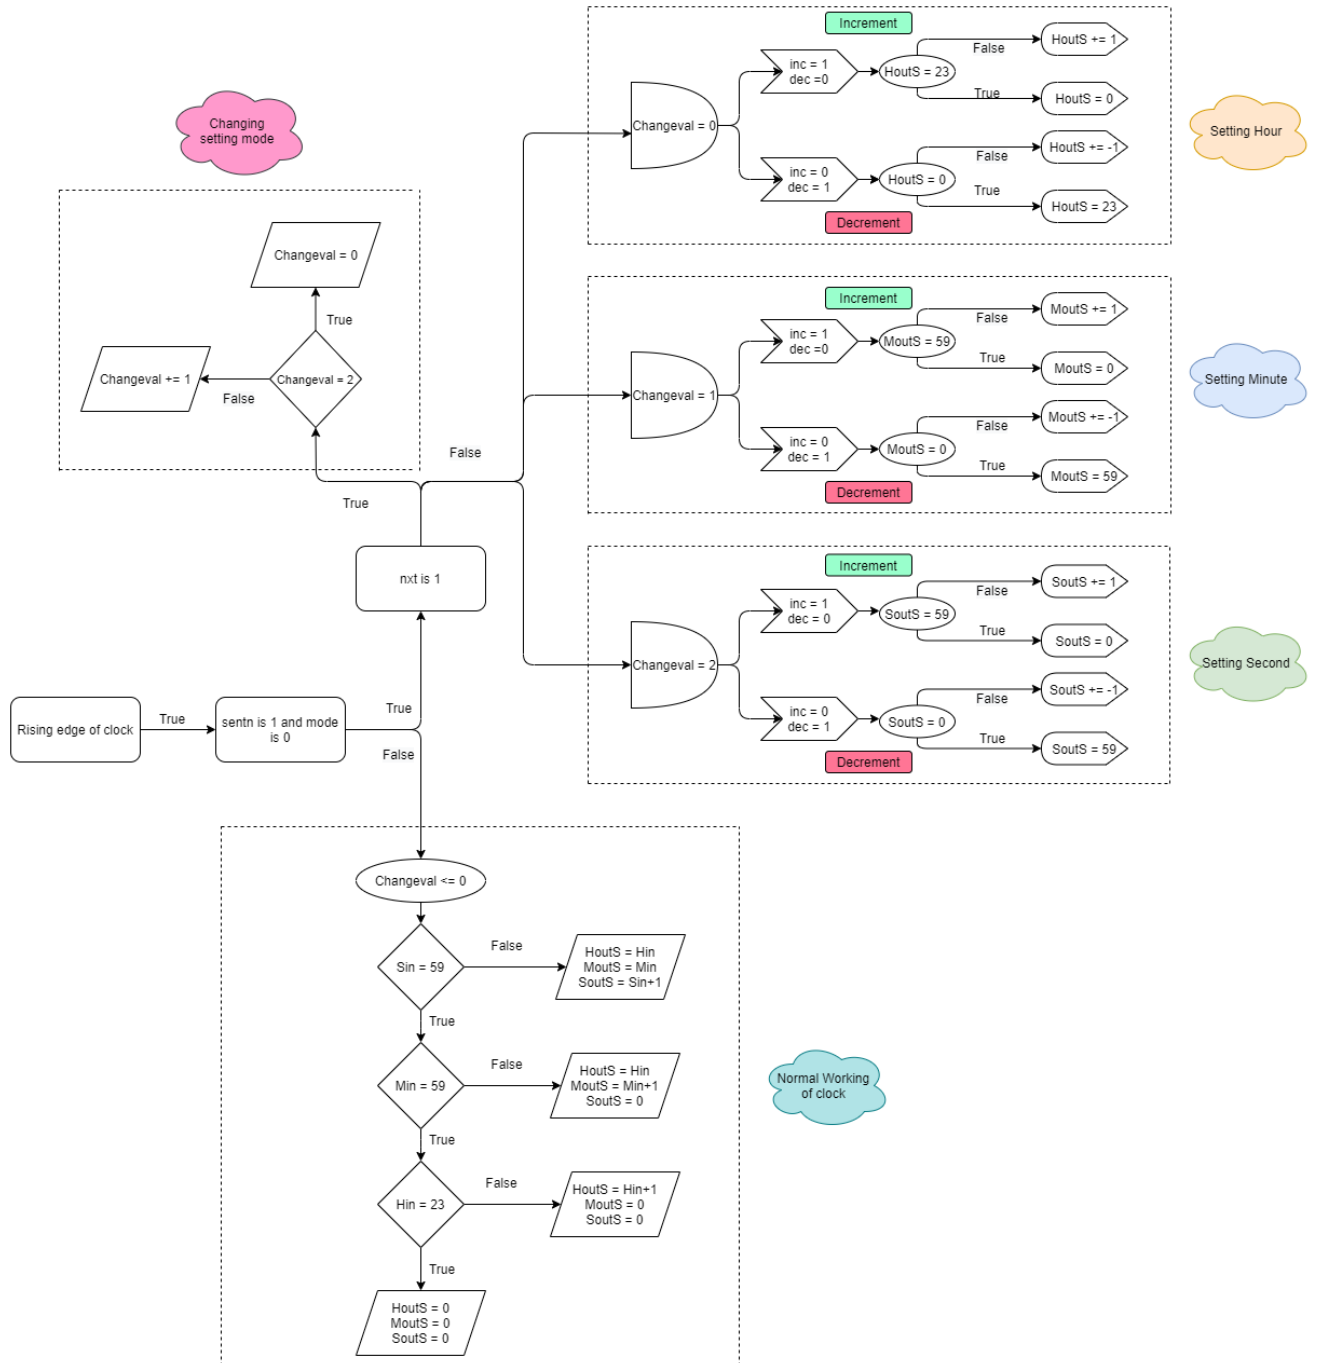

Figure 2: Flow Chart of Digital Clock
- Once the time is set, the digital clock works normally as shown in the Fig 2.